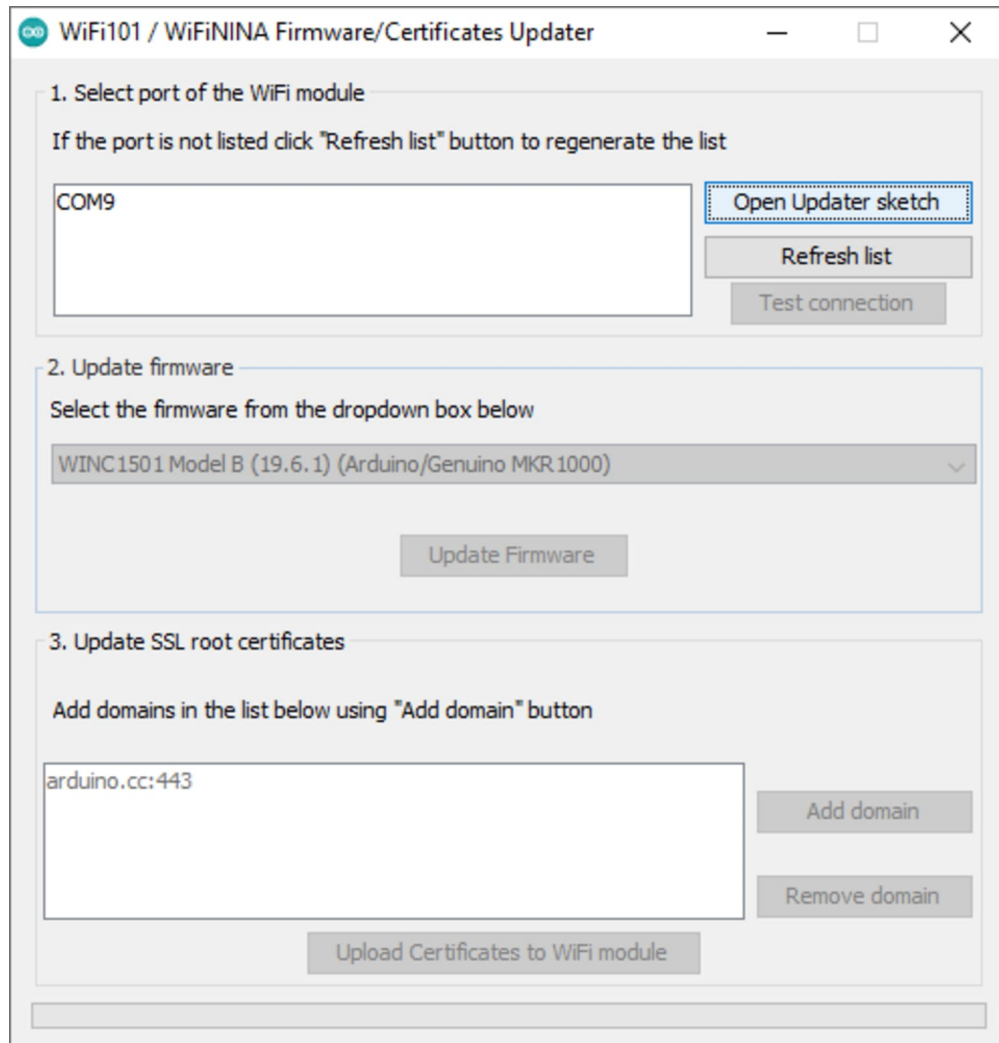

Fig. 3: Updating Arduino device firmware. On Arduino Desktop IDE, from menu bar, select Tools → WiFi101/WiFiNINA Firmware Updater
****Just a tip, add the hostname of your server when updating the SSL certificates in the Wi-Fi module (Fig. 3). This task requires a Desktop version of Arduino IDE which can be downloaded from Arduino's website. One advantage of using Arduino Desktop is that it comes**